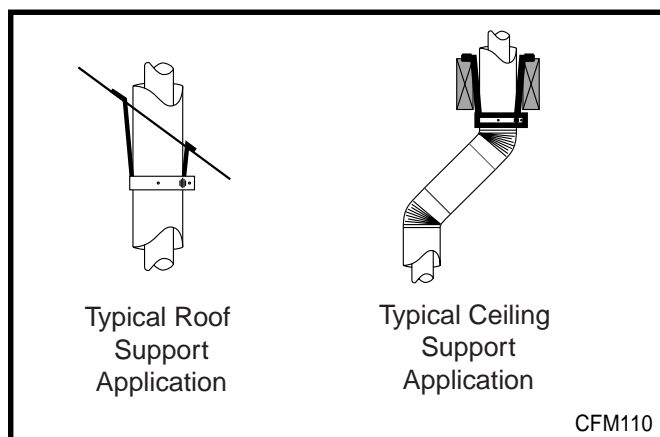
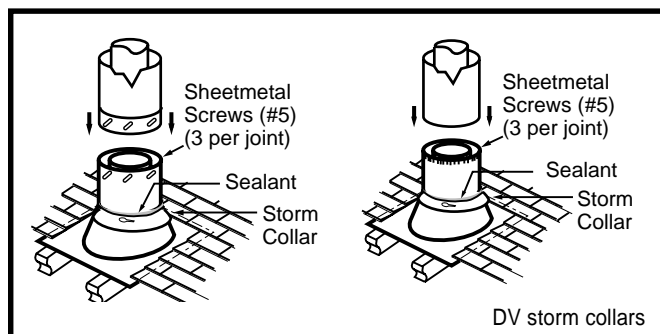

Fig. 34 Chimney support
Fig. 35 Roof flashing
- 7DVCs supports offsets (Fig. 34). This application will require you first determine the roof pitch and use the appropriate starter kit. See Venting Components List, pages 22 and 23.
7. Install roof support (Fig. 34) and roof flashing making sure upper flange is below the shingles (Fig. 35).
8. Install appropriate pipe sections until the venting is above the flashing (Fig. 35).